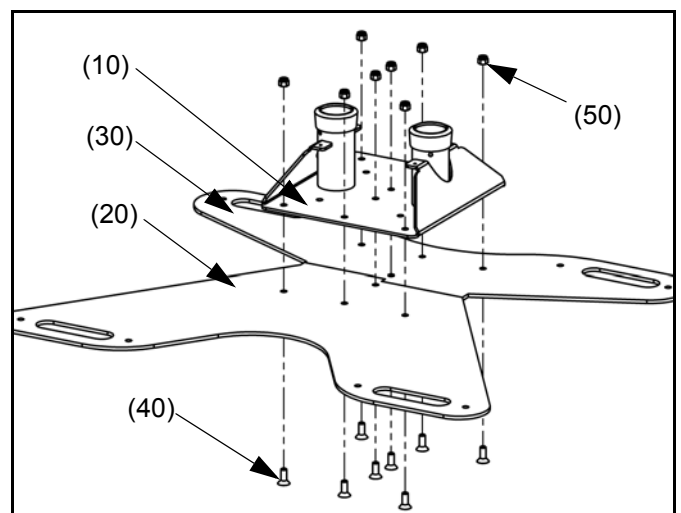

Figure 3: Install Single Base Plates
1. Place Base (10) upside down
2. Secure Front Single Base Plate (20) and Back Single Base Plate (30) using eight flat head cap screws (40) and eight 3/8-16 Nylock nuts (50) (see figure 3).
3. Place Base (10) upright.